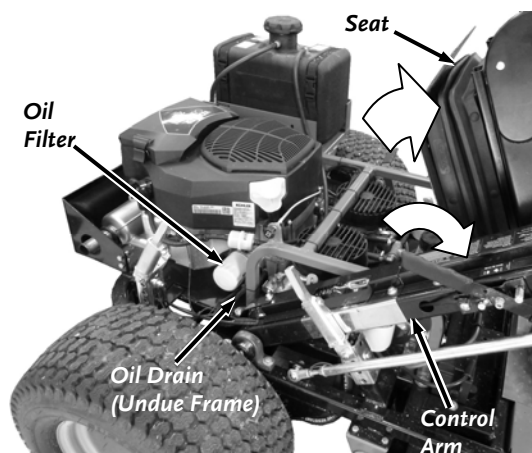

Figure 13
1. On the right side of the Kohler Engine there is a drain pipe with an Elbow that points down through a hole in the Frame (**Figure 13**). A Quick Release Valve is attached to the Elbow. Attach the Plastic Hose provided to the Quick Release Valve and drain the oil into a suitable Container.